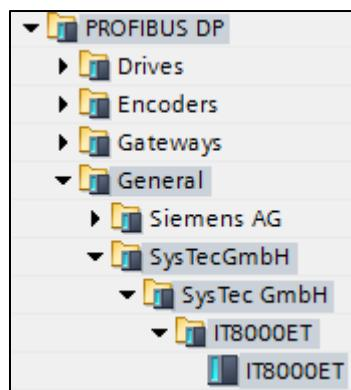

Figure 50: GSD File List View
- Then, check that the package is successfully installed and available in the software catalog list view as per **Figure 50**.